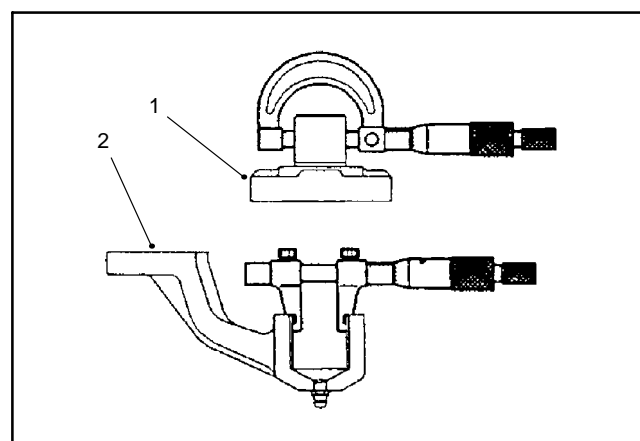

Figure 16
1. Measure the knuckle pin O.D. and the axle case support bushing I.D. to determine the bushing to pin clearance (Fig. 16). Replace components as necessary.